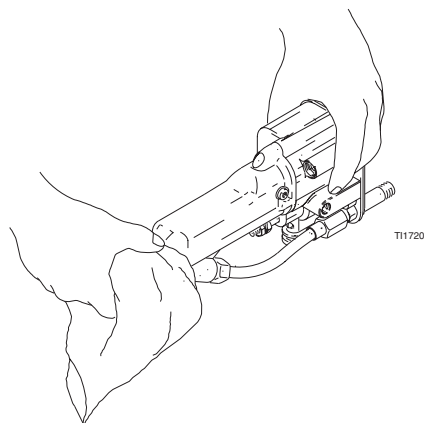

Fig. 16. Clean Gun Body
5. Dampen a soft cloth with solvent and wring out the excess. Wipe the exterior of the gun and shroud clean. See FIG. 16..